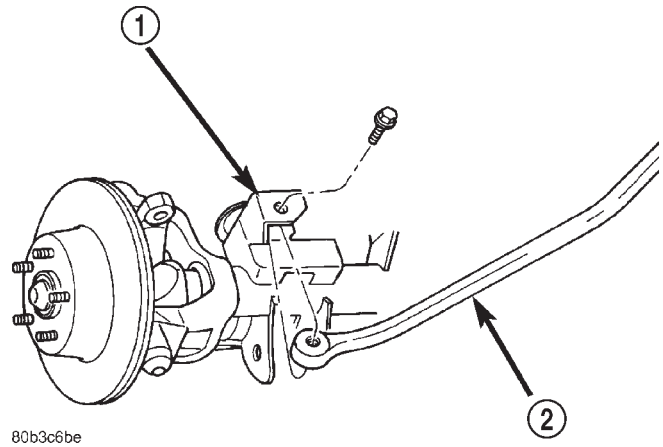

Fig. 13 Track Bar Axle Bracket
(3) Remove the bolt from the axle shaft tube bracket (Fig. 13). Remove the track bar.